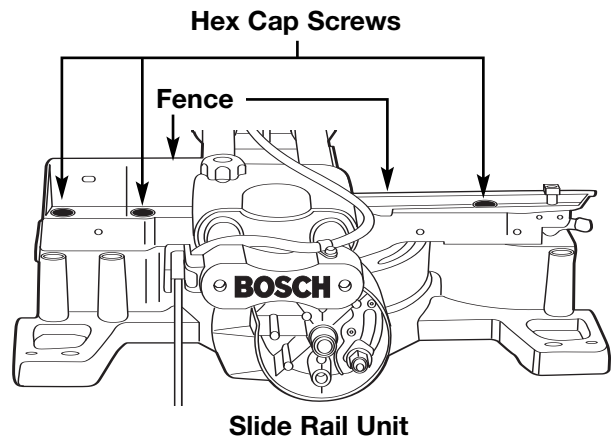

Figure 14. Fence Adjustment
2. Extend sliding fence. Use blade wrench (supplied) and loosen three (3) bolts behind fence (Figure 14).